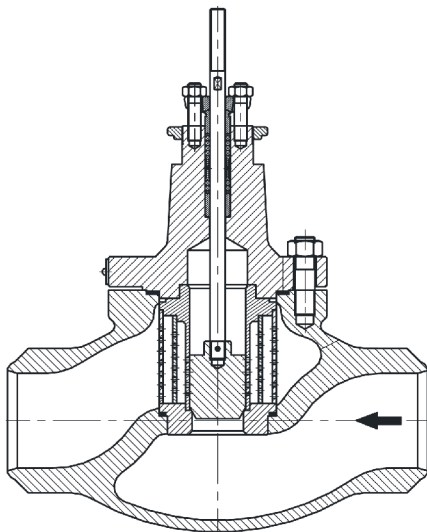

Fig. 1a. Valve VA2012.B unbalanced plug
- Under the plug for valves as per Fig. 1a and 1b, over the plug for valves as per Fig. 1 c